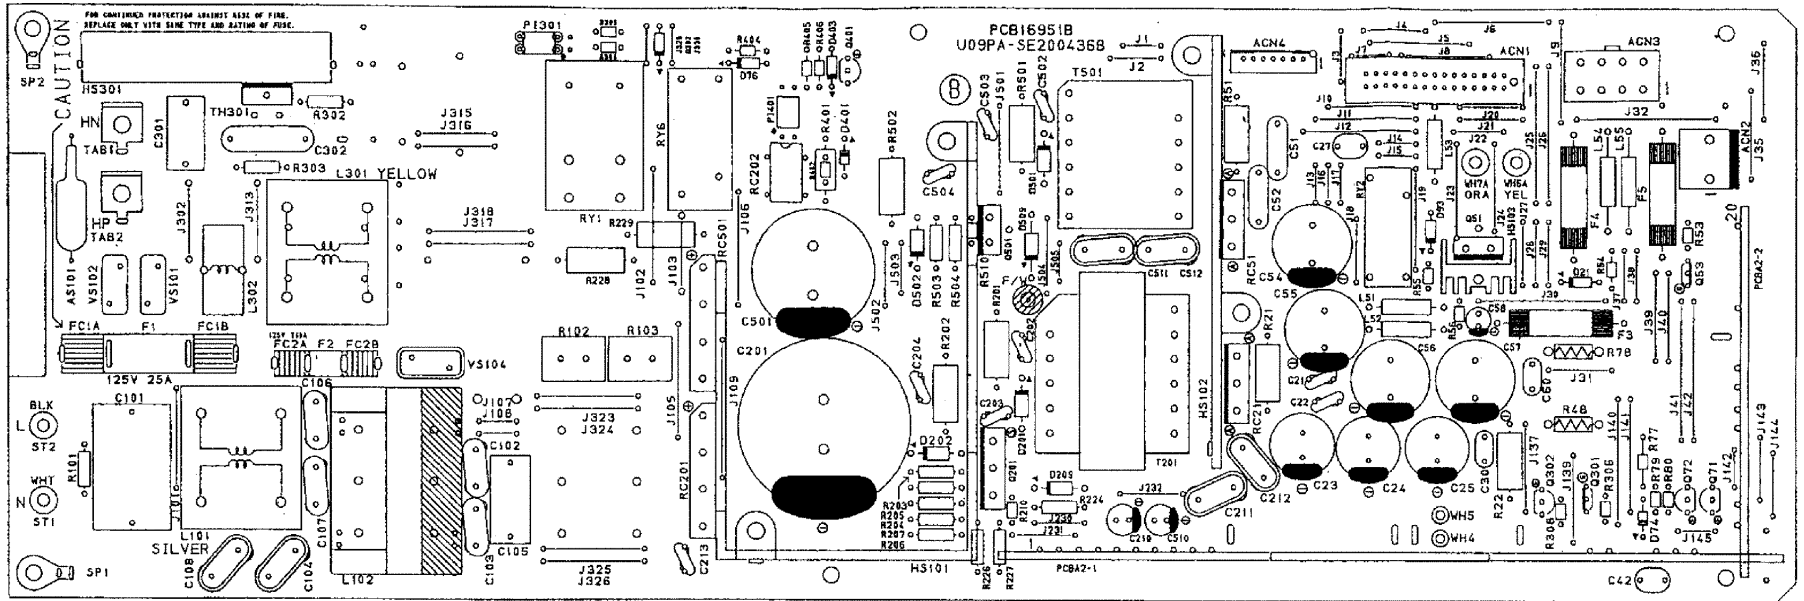

Fig.4-40
The COMMAND signal and STATUS signal are the signals that are used to transfer the data between the controller and the engine, which perform as a half-duplex asynchronous serial communication. Refer to Fig.4-40.
(2) Layout of Connector Pin Assignment See Fig.4-40 on the following page.